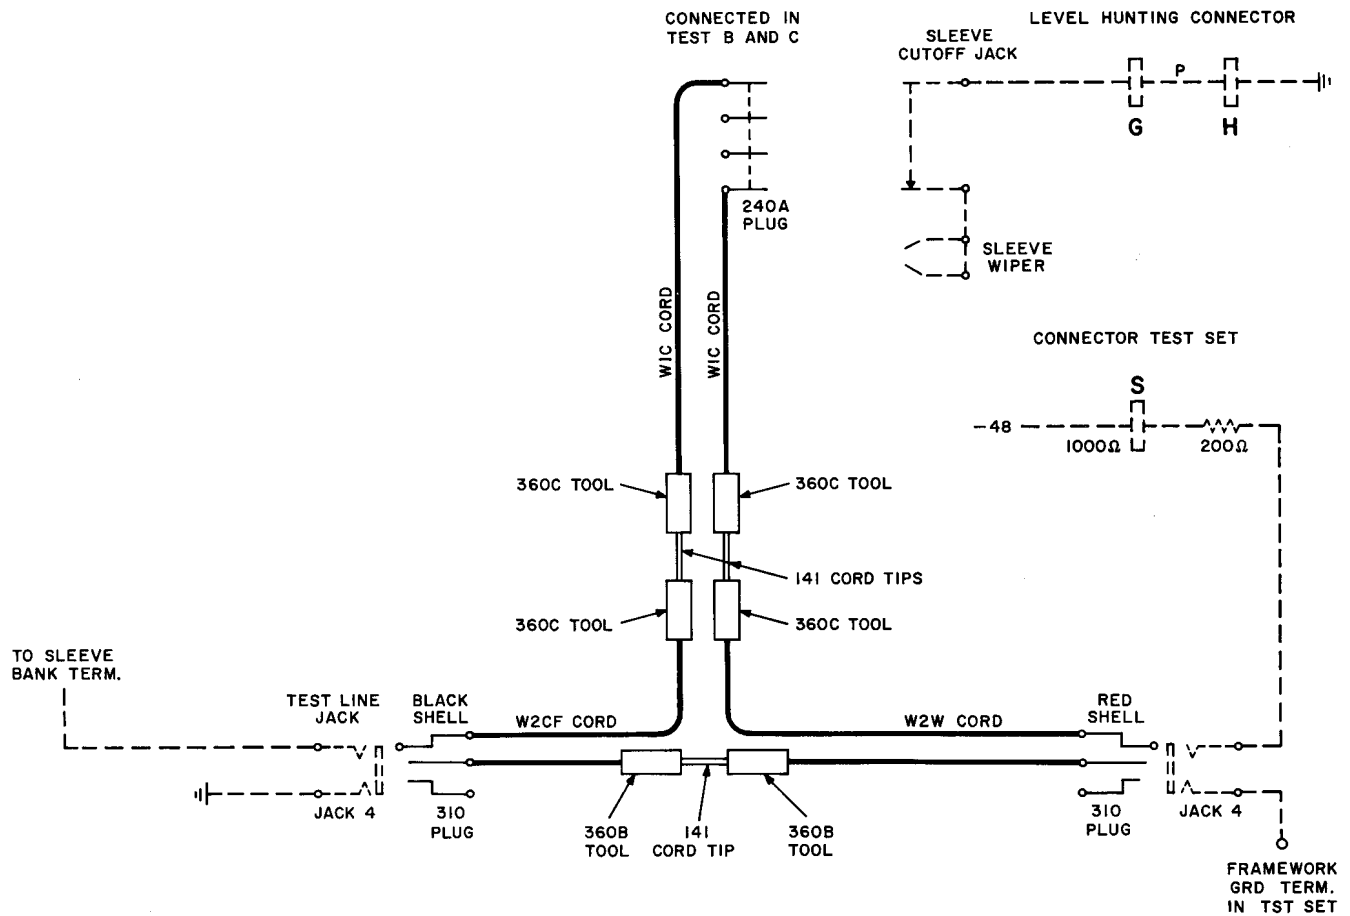

Fig. 1 — Testing Cord
2.06 Testing cord — W2W cord equipped with 310 plug, 360B tool, and 360C tool (2W17A cord); W2CF cord equipped with 310 plug (replace red shell with black shell), 360B tool, and 360C tool (2W17D cord), two W1C cords, each 12 feet long; two 360C tools; 240A plug; and three 141 cord tips. Connect to form special cord as shown in Fig. 1.
4	Connect test set jack 4 to test line jack 4 (level hunting) on connector frame, using special test cord, Fig. 1.
13	Insert 240A plug (stay cord to the right) of special test cord (Fig. 1) into sleeve cutoff jack of connector. Note: If sleeve cutoff jack wiring is reversed, reverse 240A plug.